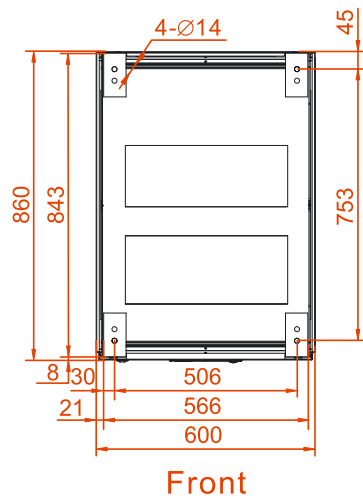

Figure3-10 Bottom size of IST6-200, IST6-300 (unit: mm)
- Step 2 Drill 4 holes (hole diameter is $\phi 13$) by hammer drill according to the bottom installation hole size (as shown in Figure3-10, Figure3-11).